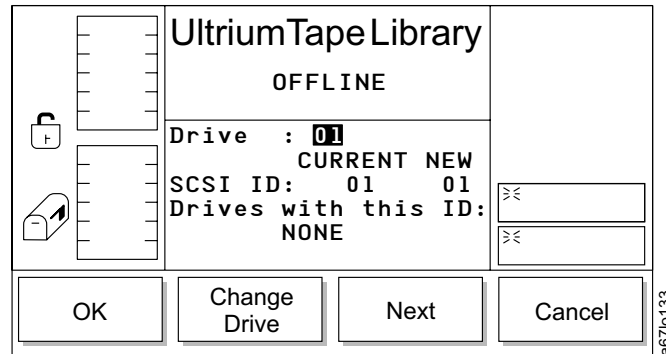

Figure 50. Drive SCSI Dialog
2. Select **Setup** → **Drives** → **SCSI**. The Drive SCSI Dialog screen displays (see Figure 50). The current drive is the value in the Drive: field. The existing drive's SCSI ID is the value in the SCSI ID: CURRENT field.